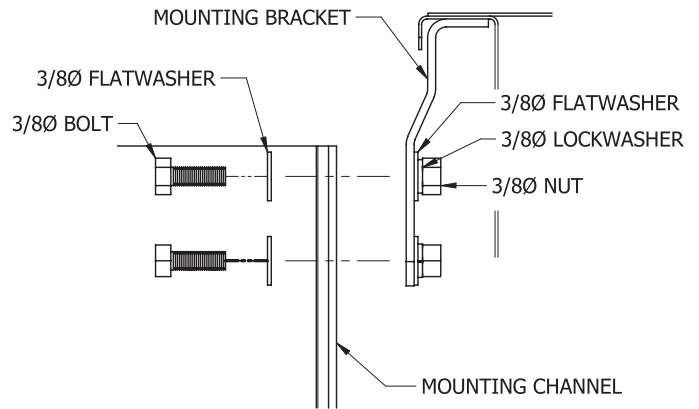

Figure 18 - Mounting Base Installation.
2. Use 3/8" flat washers, lock washer and nuts to secure the mounting channel to the bracket (See Figure 18).